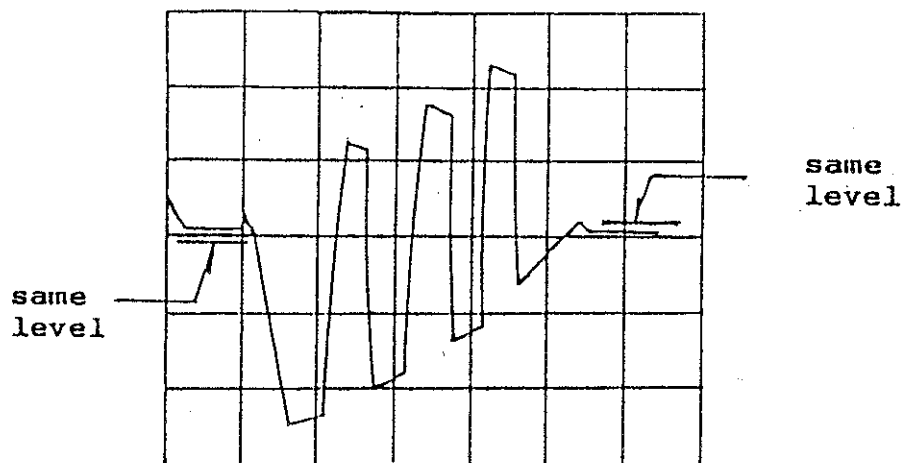

Fig.9
- (4) Connet the osilloscope to TP302.
- (5) Turn T303 to obtain Fig.9.